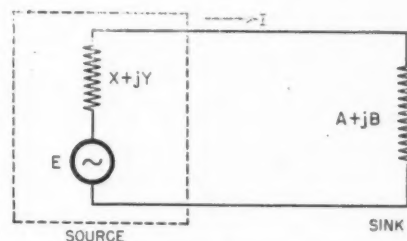

Fig. 4.
**Solution:** The problem is stated in the circuit of Fig. 4 wherein the impedance of the generator equals  $X + jY$ , the impedance of the load equals  $A + jB$ , the current is  $I$  and the generator voltage  $E$ , where  $j = \sqrt{-1}$ . Then: